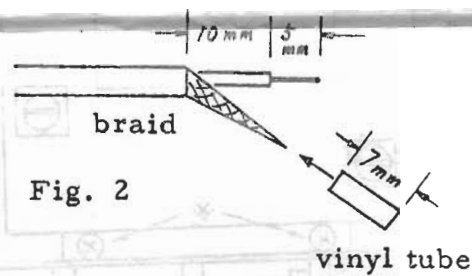

Fig. 2
- (b) Prepare the ends of the coax cables as illustrated in Fig. 2. Remove a wire (2) between pin 2 of MJ-1 and soldering post. Locate white wire (3) between pin 5 of MJ-2 and soldering post and disconnect wire from the soldering post. Remove yellow wire (4) from pin 2 of MJ-2 and the soldering post. Disconnect white/yellow wire (5) from the soldering post.